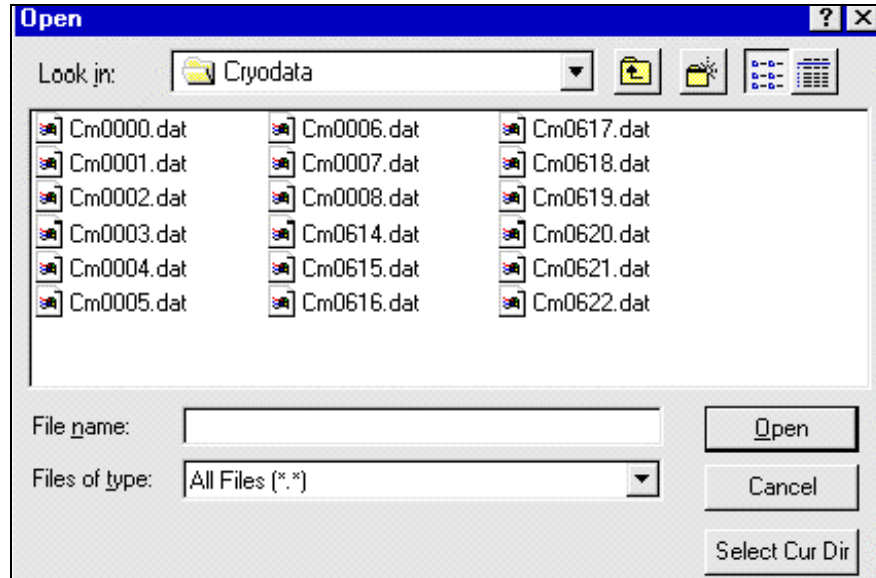

Figure 7. Select the source directory where files for upload are saved.
- Either enter the path manually, or use the **List** button to open a navigational dialog box (See Figure 7). Use the dialog box to select the files you want to upload. From the dialog box you can only select the directory that contains the files; you cannot select individual files.